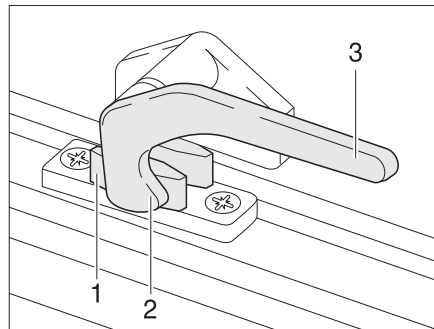

Fig. 70 Catch lever in "closed" position
- Turn the catch lever (Fig. 70,3) a quarter turn towards the centre of the window.
- Turn the catch lever (Fig. 70,3) a quarter turn towards the window frame. The locking catch (Fig. 70,2) is located on the inside of the window catch (Fig. 70,1).
- Firmly closed (Fig. 70).